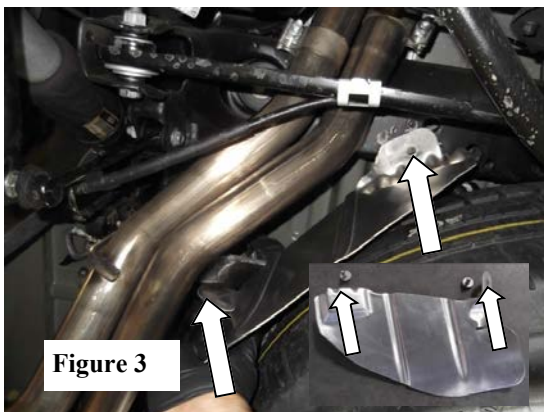

Figure 3
3. Unbolt and remove the heatshield next to the spare tire, place the hardware aside for reinstallation later. (See Fig. 3)